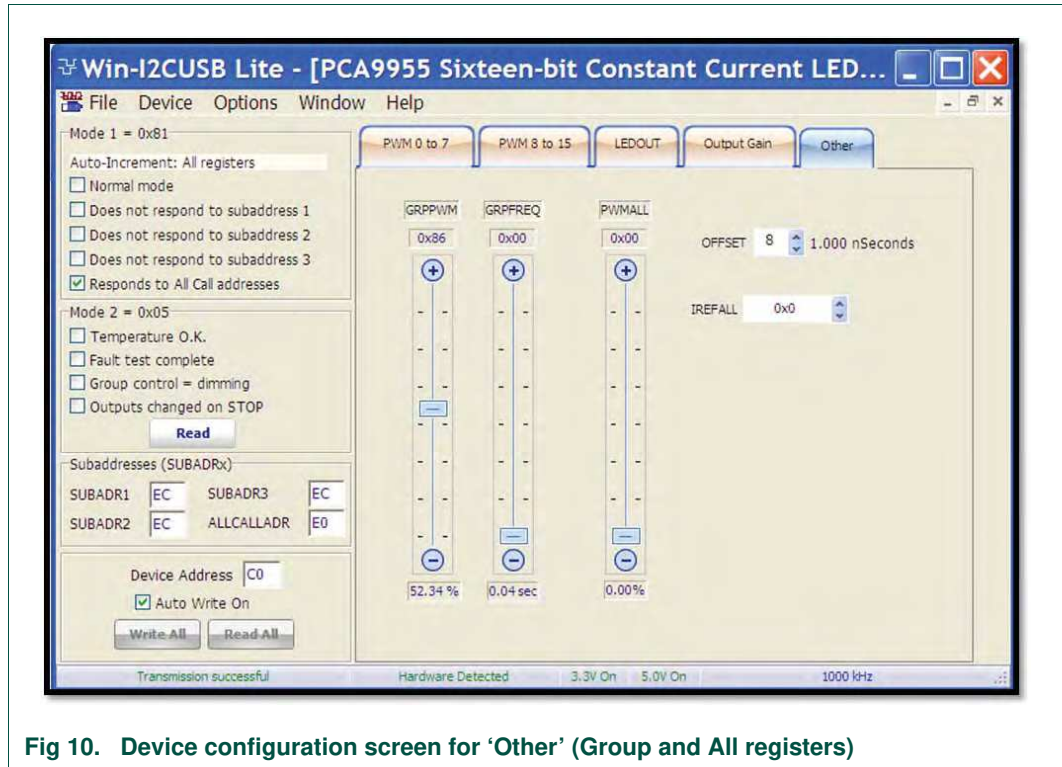

Fig 10. Device configuration screen for 'Other' (Group and All registers)
- 'Other' GRPPWM is group PWM for global brightness control, GRPFREQ is group frequency for global blinking control when group control = blinking in Mode 2 register, PWMALL is brightness control for all LED outputs, OFFSET is control LED output delay offset, IREFALL is control output current for all LEDs as shown in Figure 10.
- 7. Once you set a color on D3 RGB LED with the PWM[1:3] values, click the 'Other' configuration screen and move the GRPPWM bar for dimming effect (see Figure 10).